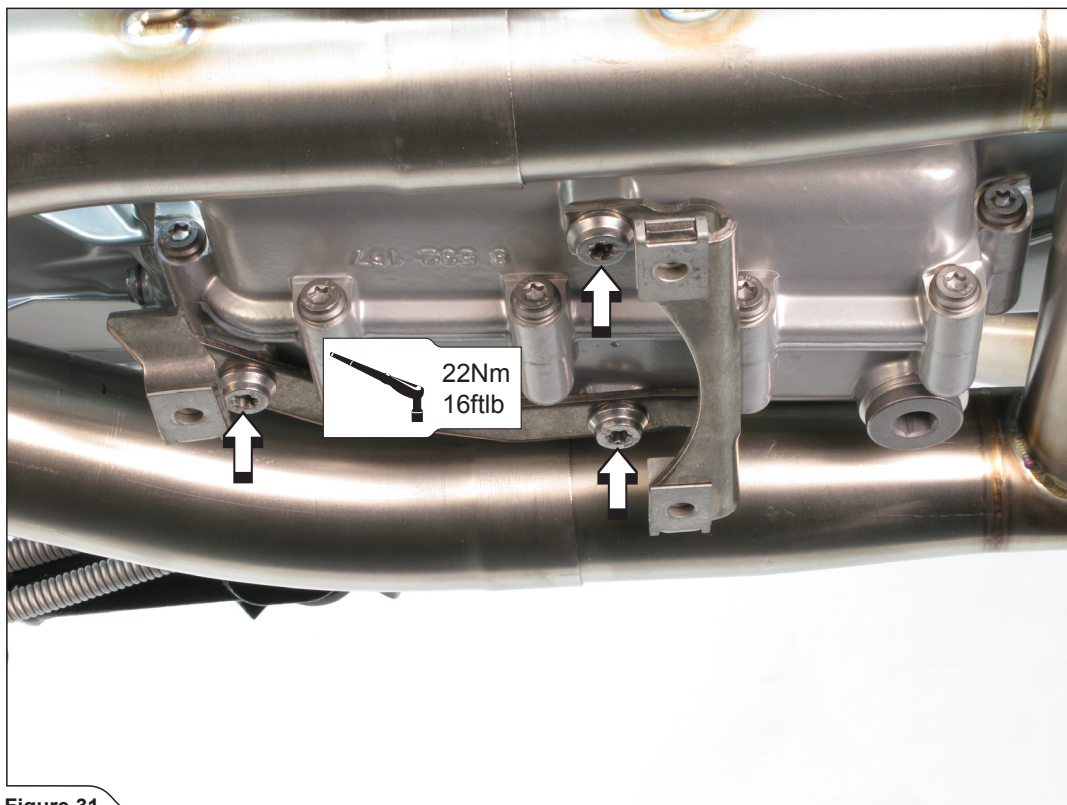

Figure 31
22. Reinstall the skid plate's bracket, skid plate and both lambda sensors (Figure 31, 32).